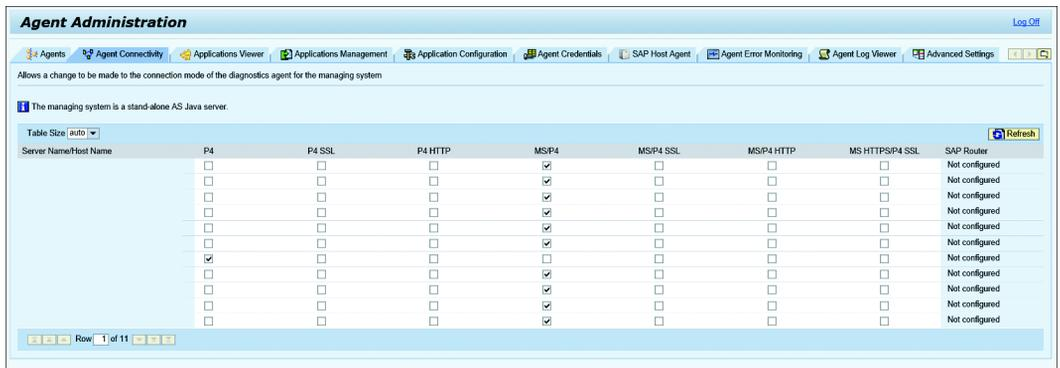

Figure 12 Migrate DAAs to New Connection Method
3. Now, we need to migrate the DAAs to use the MS/P4 or MS/P4 SSL ports. Go to the Diagnostic Agent Administration portal by way of the URL *http(s)://<Solution Manager Java Host>:<http port>/smd/AgentAdmin*. Navigate to the AGENT CONNECTIVITY tab and select the MS/P4 or PS/P4 SSL connectivity setting for each diagnostic agent and select APPLY CHANGE. Wait for the agents to update and validate they are connected to SAP SolMan using the new port. Figure 12 is an example of a diagnostic agent configured USING the MS/P4 port.